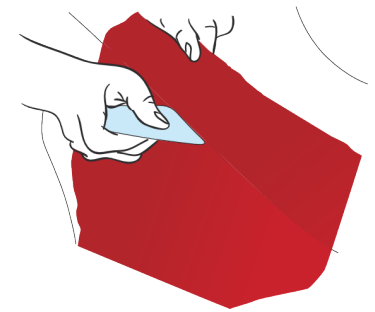

Figure 38
- › Trace the contours of the area with your finger. Lift the vinyl of the adjacent part and drag it into the hollow using a squeegee so as to mark the seal edge. (FIG. 38)